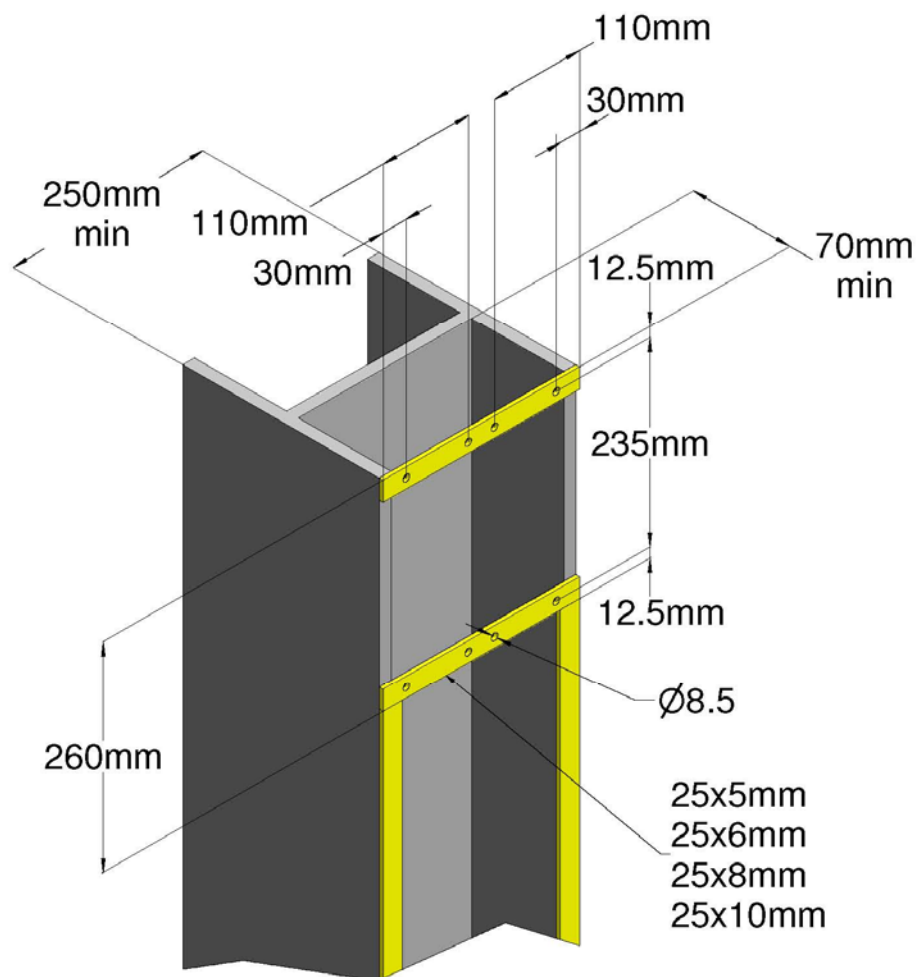

Figure 10
10. Central tracking without drives: Detail of the central tracking is shown in Figure 10. The majority of the tracking details are the same as Area I. Of particular note: